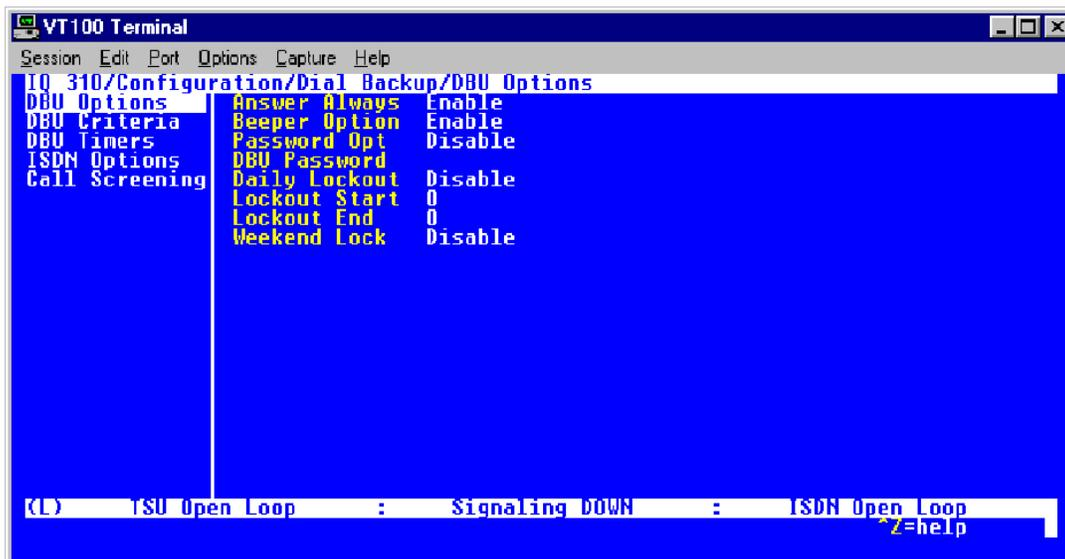
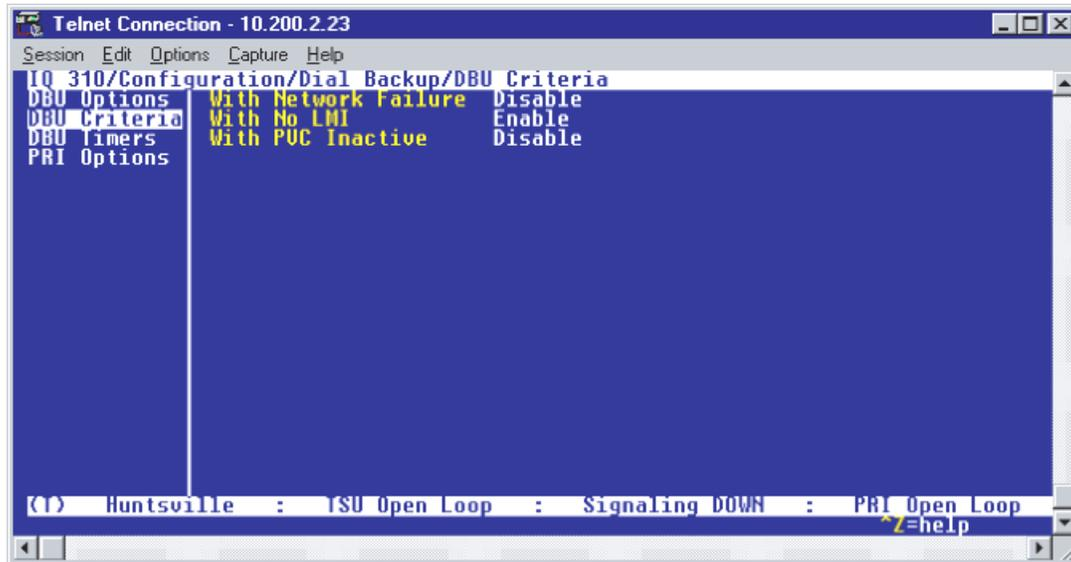

Figure 6. DBU Options Menu
Figure 7. DBU Criteria Menu
1. Press the down arrow to select **DBU OPTIONS**; then press **<ENTER>**. The screen shown in Figure 6 will appear. The default parameter values for this screen are shown.
1. From the screen shown in Figure 6, press the down arrow to select **DBU CRITERIA**. The menu screen shown in Figure 7 is displayed. The default values for the parameters on this screen are shown.